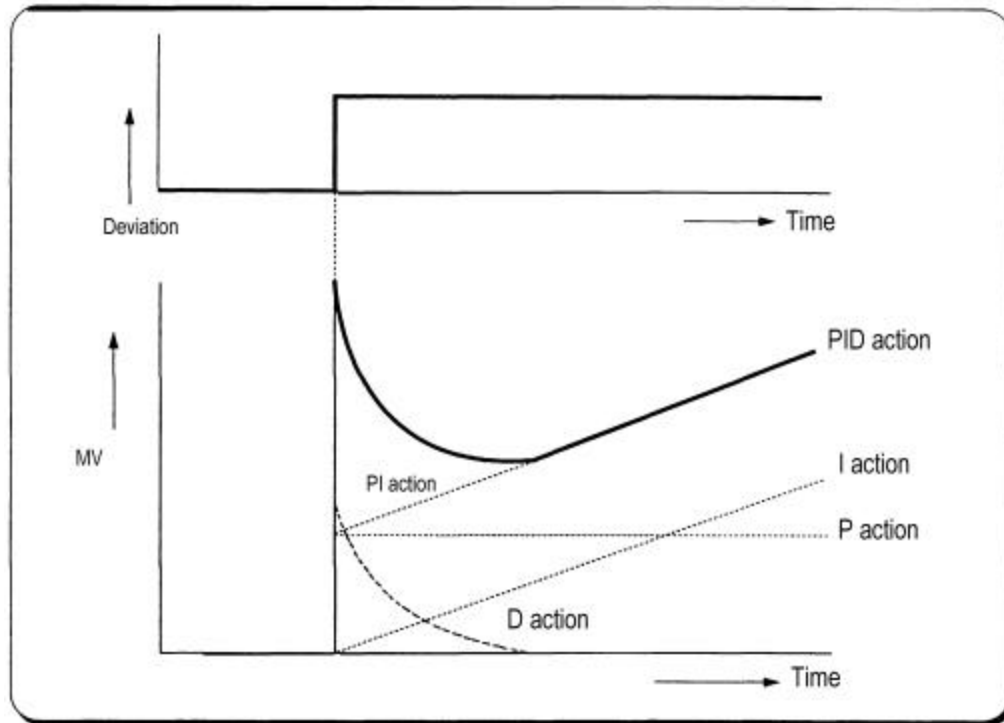

Fig. 2-8 PID action with a constant deviation
- 2) PID action when a given deviation has occurred is shown as the following Fig. 2.8.